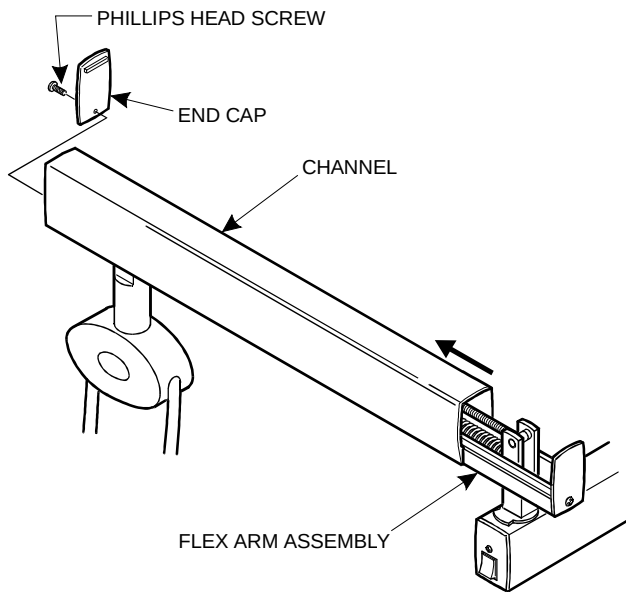

Figure 10
1. To expose the interior of the flex arm, remove the end cap and screw and slide the channel off the assembly (See Figure 10).